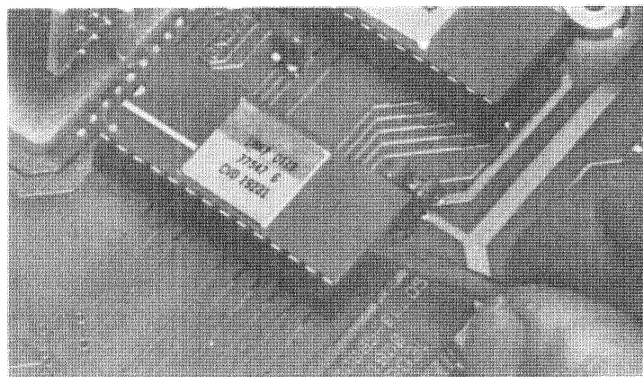

Figure 2-4. Removing IC From Socket
- a. Insert a small, flat-blade screwdriver between one end of the IC and the socket. (See figure 2-4.)